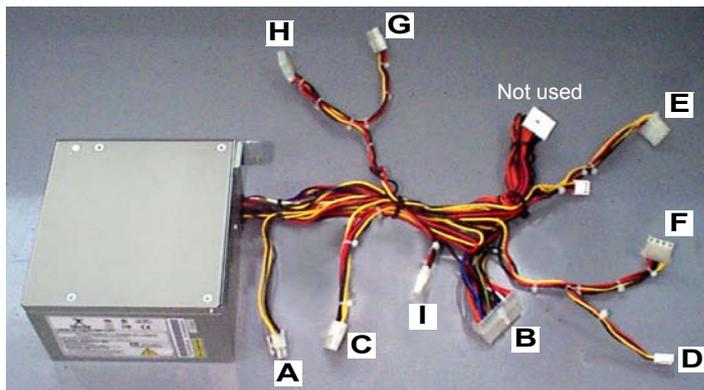

Figure 8-63 Removing the BEP2 Power Supply with Cable Loom and Connectors
- 21.) Remove the power supply from the BEP, together with the attached cable loom, as shown in Figure 8-63 below.